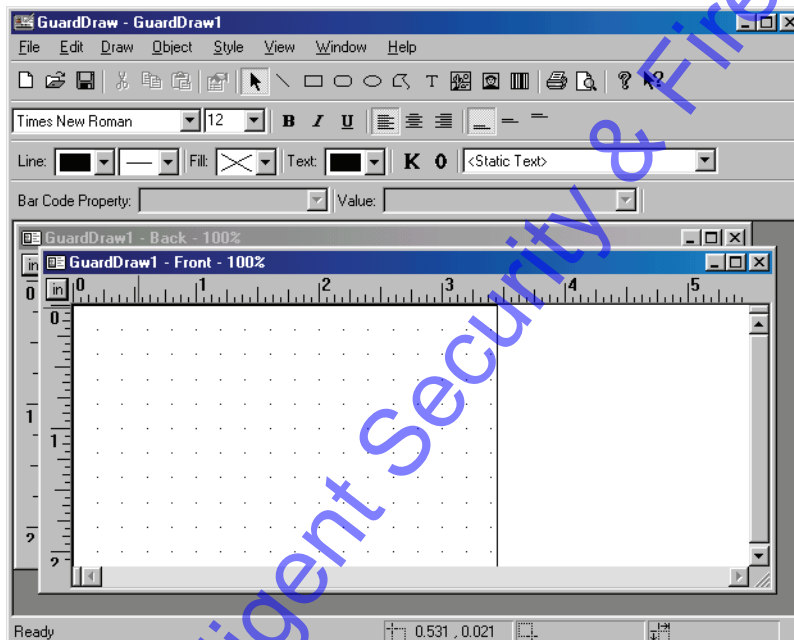

Figure 9-10: A Blank Badge Template Window
3. A blank GuardDraw template is now open (see Figure 9-10).